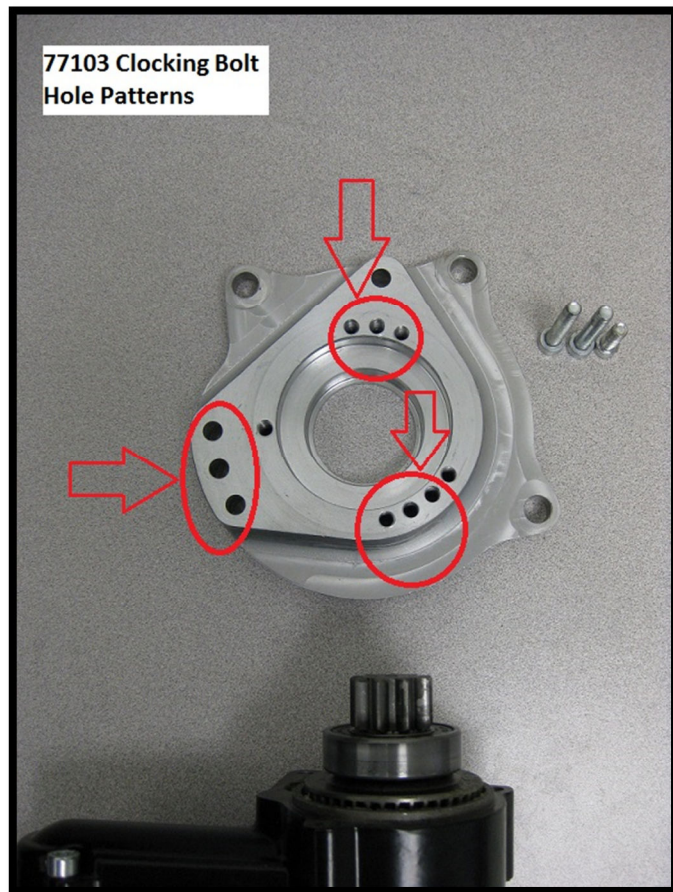

Figure 3: Re-Clocking the Starter for Clearance
STEP 4. Mount the starter. With the starter in position, make sure the solenoid housing has maximum clearance from heat sources and other components. The starter can be clocked in three different locations on the mounting block to obtain the best position. To re-clock the starter, first remove the starter, then remove the mounting block bolts and re-position accordingly. Re-Torque to 8 ft-lbs. Please see Figure 3.